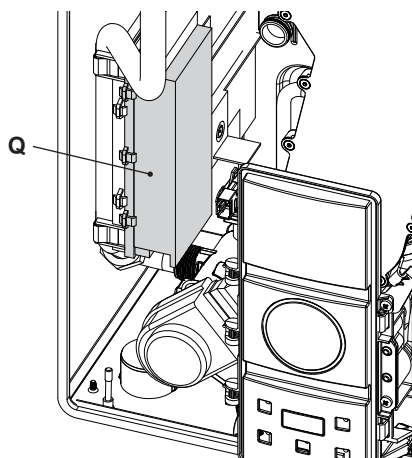

Fig. 6.15
- Identify the terminal block cover lid " Q " (Fig. 6.15) and open it.